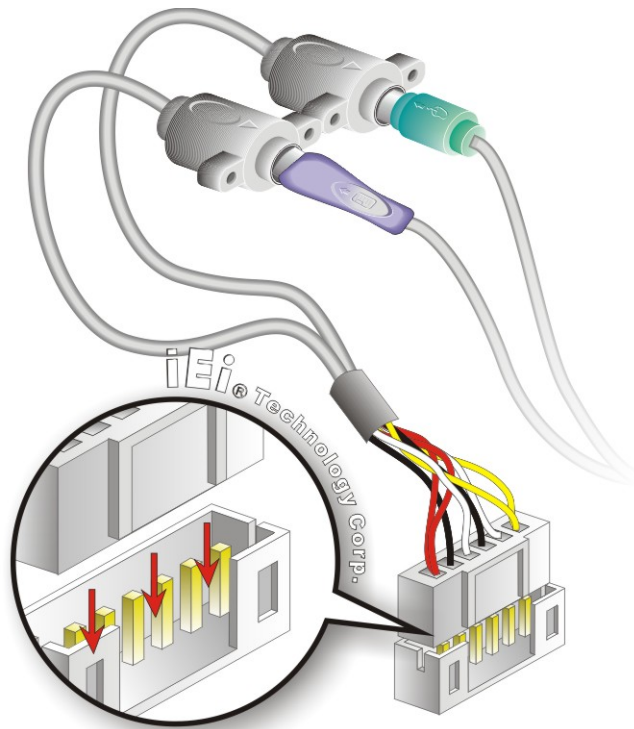

Figure 4-13: Keyboard/mouse Y-cable Connection
Step 2: Align the connectors. Correctly align pin 1 on the cable connector with pin 1 on the WAFER-PV-D5252/D4252/N4552 keyboard/mouse connector. See Figure 4-13.
Step 3: **Insert the cable connectors** Once the cable connector is properly aligned with the keyboard/mouse connector on the WAFER-PV-D5252/D4252/N4552, connect the cable connector to the on-board connectors. See Figure 4-13.